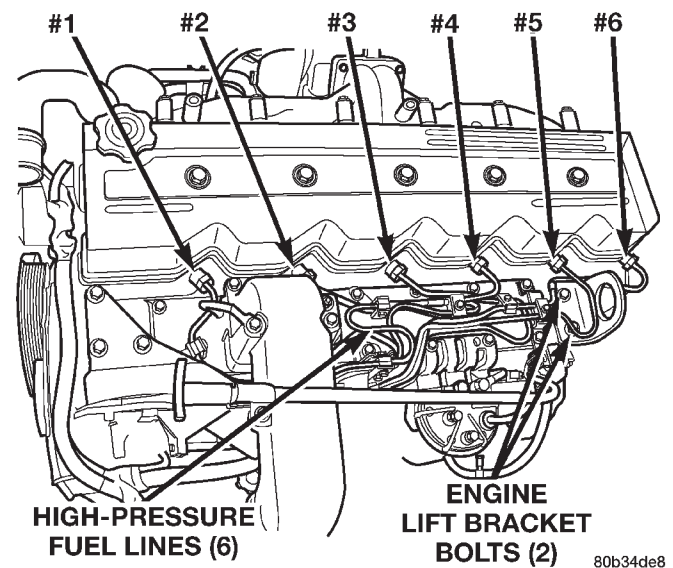

Fig. 60 High-Pressure Lines at Cylinder Head
(14) Remove engine lifting bracket at rear of intake manifold (2 bolts) (Fig. 60).
(18) Loosen high-pressure lines at cylinder head for cylinders 1, 2 and 4 (Fig. 60).
(19) Carefully remove front line bundle from engine. **Do not bend lines while removing.** While removing front line bundle, note line position.
(20) Loosen high-pressure lines at injection pump beginning with cylinders 3, 5 and 6.
(21) Loosen high-pressure lines at cylinder head for cylinders 3, 5 and 6 (Fig. 60).
(22) Carefully remove rear line bundle from engine. **Do not bend lines while removing.** While removing rear line bundle, note line position.